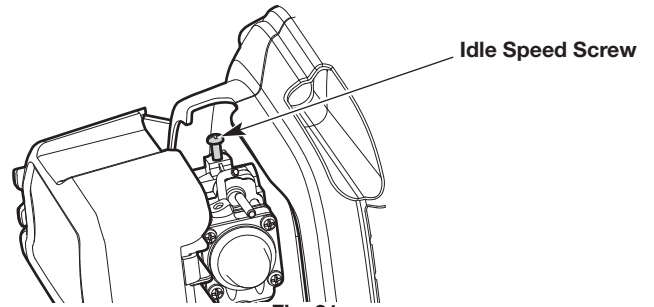

Fig. 21
- If the engine stops, increase the idle speed. Use a small Phillips screwdriver to turn the idle speed screw clockwise, 1/8 of a turn at a time, until the engine idles smoothly (Fig. 21).
- If the blade spins when the engine idles, reduce the idle speed. Turn the idle speed screw counterclockwise, 1/8 of a turn at a time, until the blade stops moving (Fig. 21).